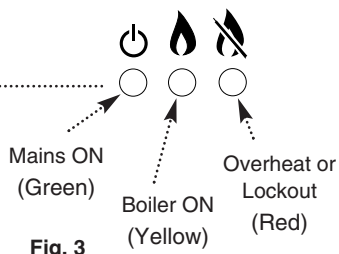

Fig. 3
4. The fan will start to run and after a short period, the ignition spark will commence. Sparking will continue until the flame is established. Check that both the Mains ON light and Boiler ON light are on. Mains ON is indicated by green and Boiler ON by yellow (Fig. 3).